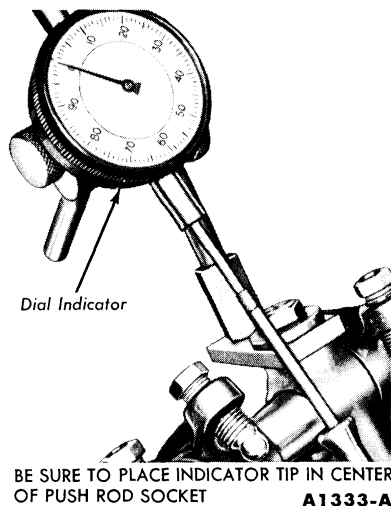

FIG. 7—Camshaft Lobe Lift—Mechanical Valve Lifters
2. Make sure the push rod is in the tappet socket or the lifter push rod cup. Install a dial indicator in such a manner as to have the actuating point of the indicator in the push rod socket and in the same plane as the push rod movement (Fig. 7 or 8).